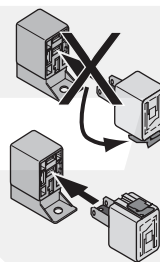

fig. 2
7. Connect the relay to the wiring harness (see figure 2). Clip the relay to the upper metal edge from the existing hole, where the 14-pole connector is situated.